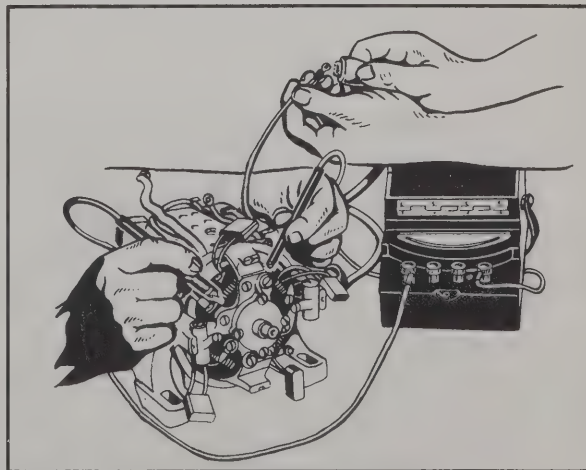

Figure 7-4. Neutral Setting
d. While holding the armature to prevent rotating, carefully hold test probes on central bars in adjoining brush holders while an assistant touches approximately 24 volts DC to open shunt field leads for just one second. The millivoltmeter pointer should suddenly deflect slightly and return. (See figure 7-4.)